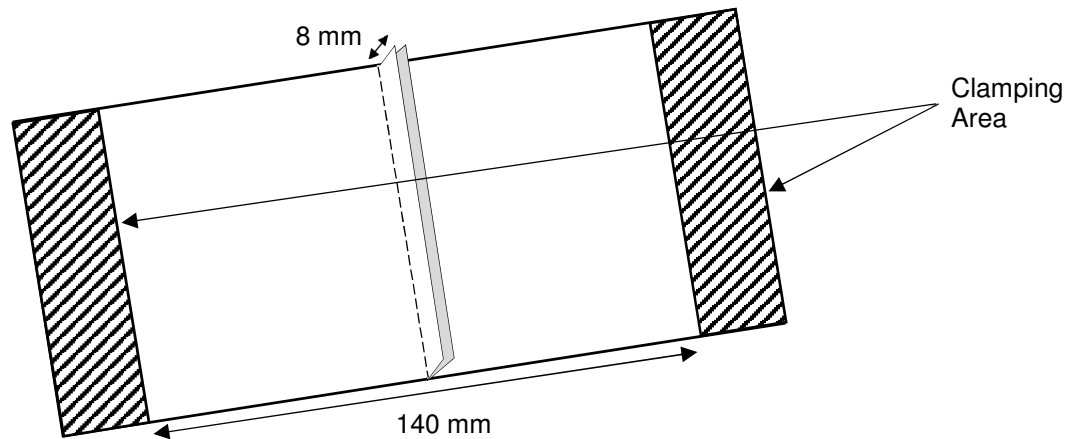

Figure 2. Sewn-Seam construction with an 8 mm seam distance and 140 mm distance between the clamps.
3. Assemble 3 pairs of against machine direction (AMD) as shown in Figure 2, A-surface facing A-surface to create 3 {AMD} specimens. These specimens are sewn along the machine direction edge.
4. Sew the pairs 8 mm from the cut edges with a stitch length of 5-6 stitches per inch (Figure 2). Back stitch for approximately 3 stitches to lock in the thread.